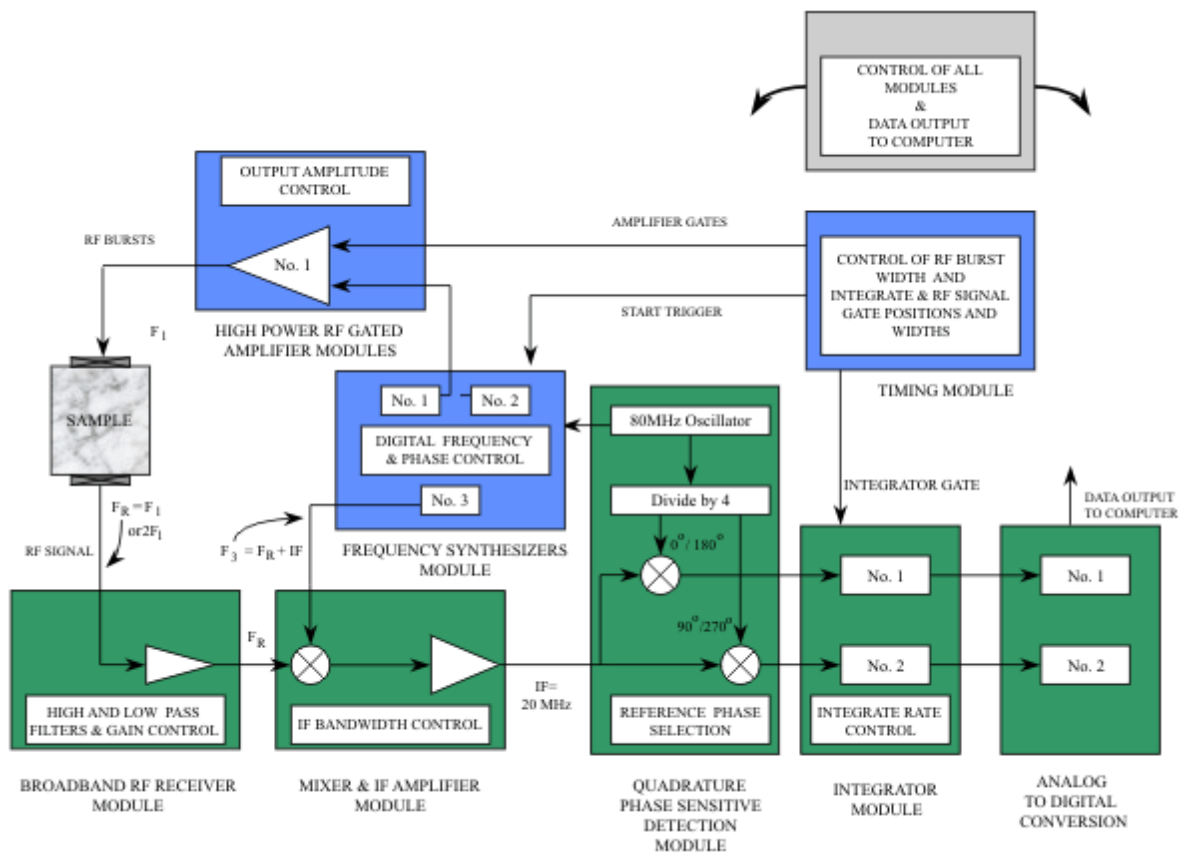

Figure 10-1. Block diagram of RAM system.
Figure 10-1 shows the block diagram of the instrumentation approach used in the RAM-5000-SNAP system.
Equations 10-5, 10-6, and 10-7 describe the "quadrature phase-sensitive detection" process. The high-frequency terms are effectively removed by the integrators and low-pass filters (not shown in Figure 10-1) that follow the analog Multipliers. Only the low-frequency (base band) terms, involving the phase of the received signal, survive. This analysis has assumed that the local oscillator synthesizer (synthesizer 3) has been set to receive the proper frequency. If this is not the case, the phase detector outputs will contain terms containing the difference frequency between the tuning (LO) frequency and the actual received frequency.